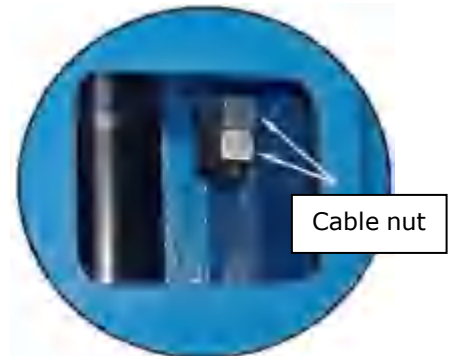

Fig. 58
1. Adjustment of synchronous cable (See Fig. 58)